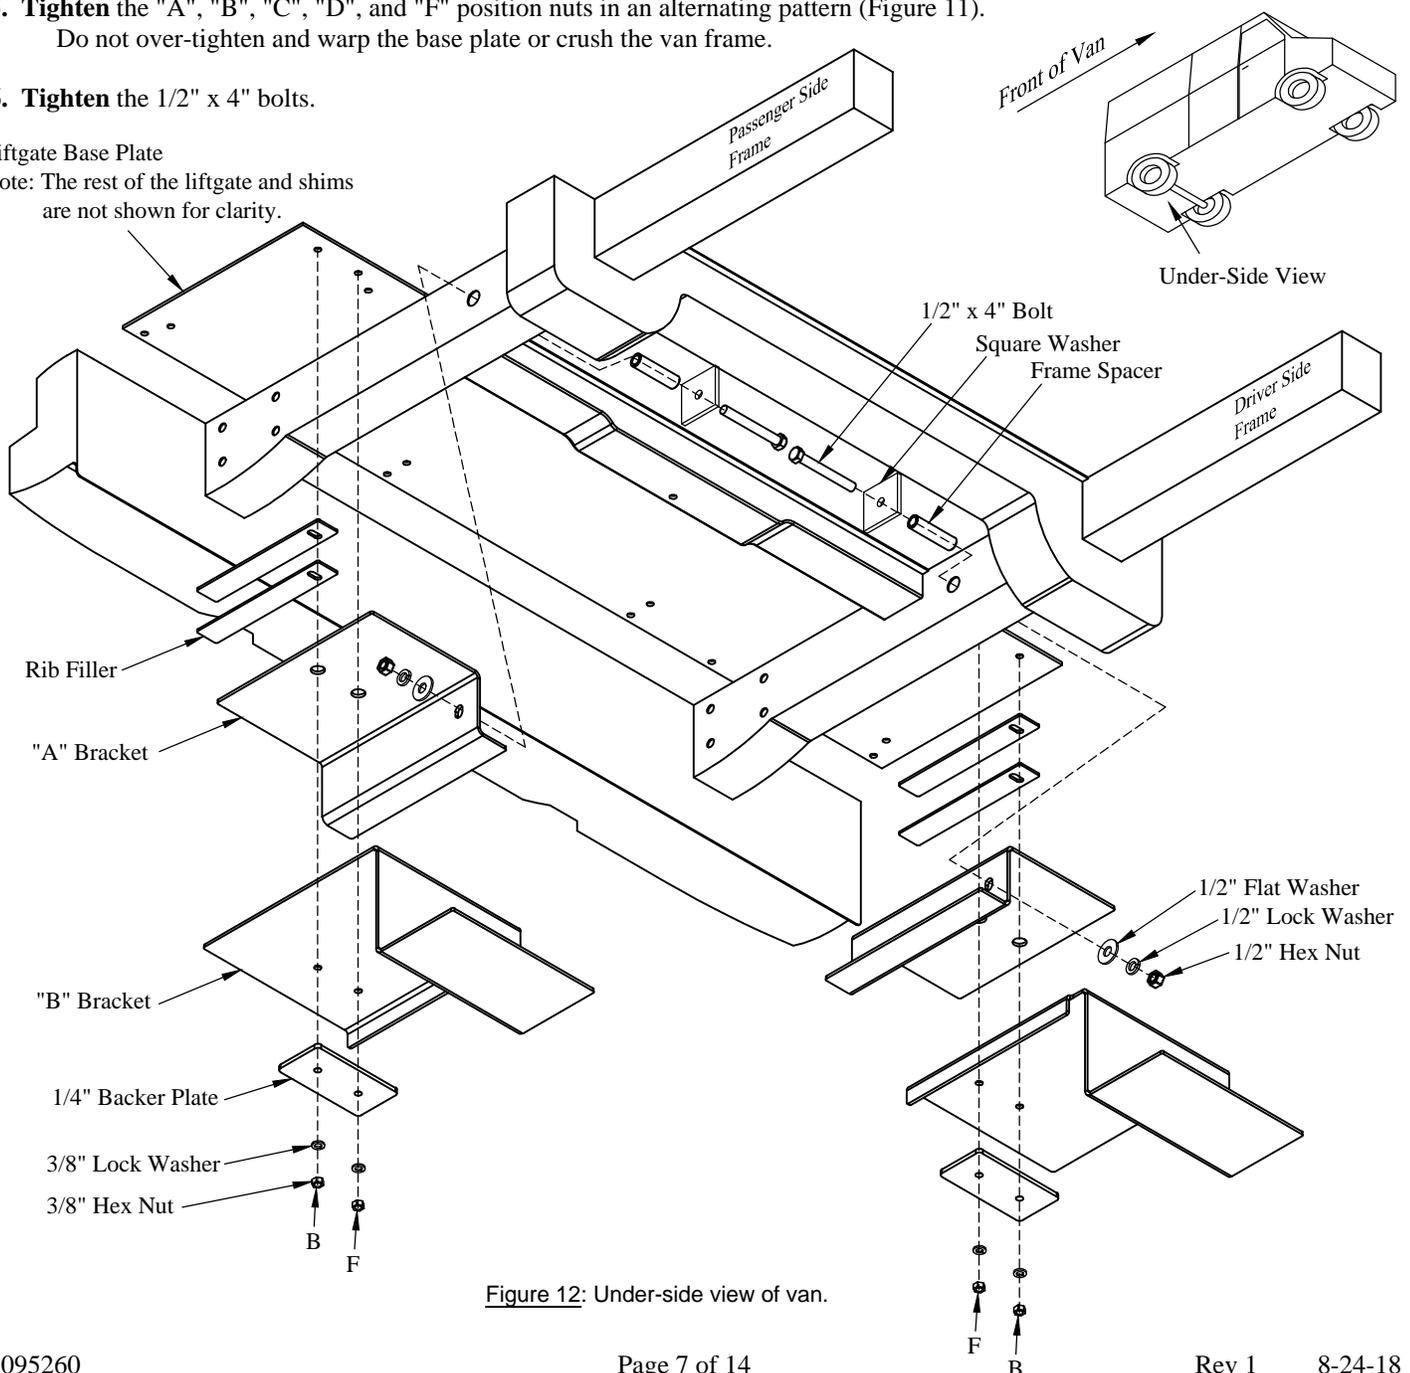

Figure 12: Under-side view of van.
- 7. Insert** two (2) rib fillers on each "B" location bolt (Figure 12). These parts fill in the underside of a rib.
8. **Install** an "A" bracket onto the "B" and "F" location bolts (Figure 12). Be aware that there is a left and right of these brackets.
9. **Install** a "B" bracket onto the "B" and "F" location bolts (Figure 12). Be aware that there is a left and right of these brackets.
10. **Install** a 1/4" backer plate onto the "B" and "F" location bolts (Figure 12).
11. **Secure** the mounting brackets with 3/8" lock washers and hex nuts (Figure 12). Do not tighten at this time.
12. **Insert** two (2) 1/2" x 4" bolts into a square washer and frame spacer (Figure 12).